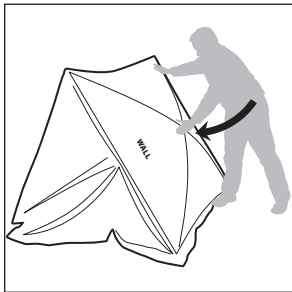

FIGURE 6
2. Using your hand, push the center hub in on roof and walls until they collapse inward. **SEE FIGURES 6 & 7.**